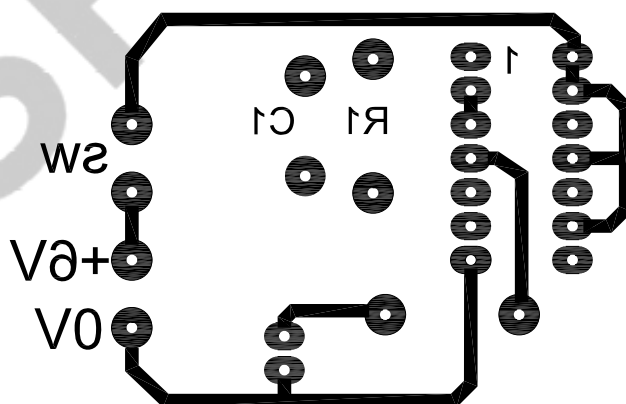

Fig. 11
- (b) Fig. 11 shows part of a PCB layout for the circuit.